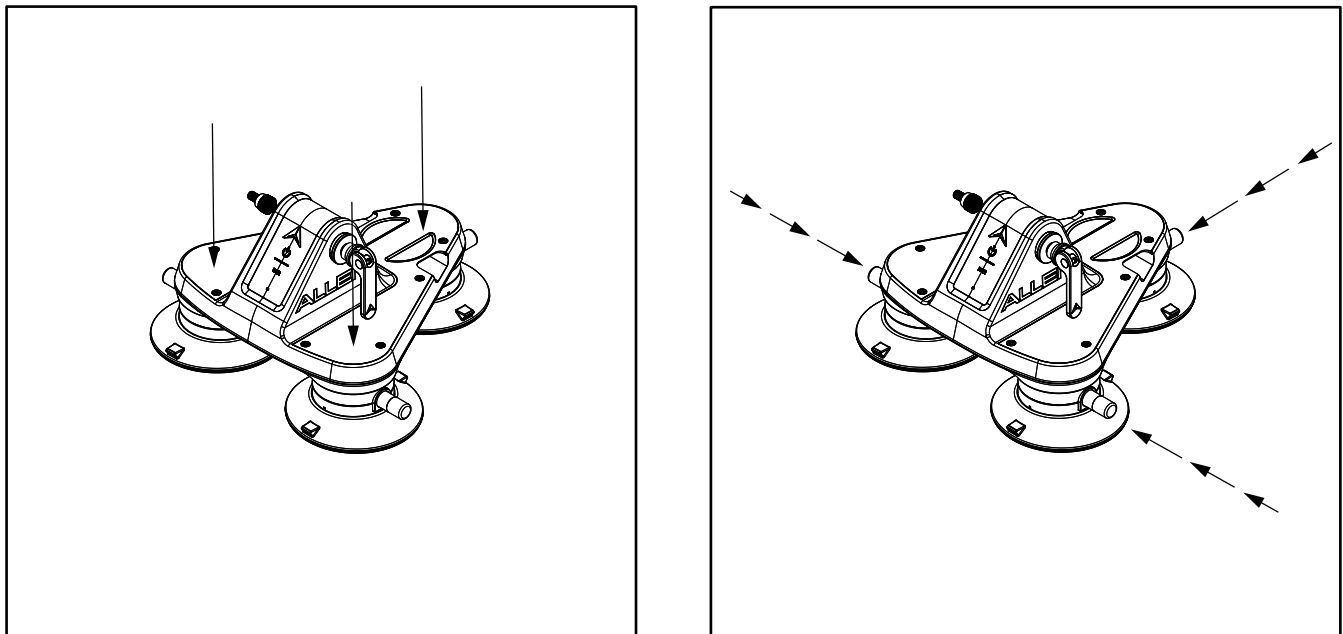

FIGURE 12
STEP 4: Create a suction seal by applying downwards pressure to the top of each cup and manually pumping each suction cup button as shown in **Figure 12**. Once the red barrel indicator on the button is no longer visible, the suction cup is properly sealed to the vehicle.